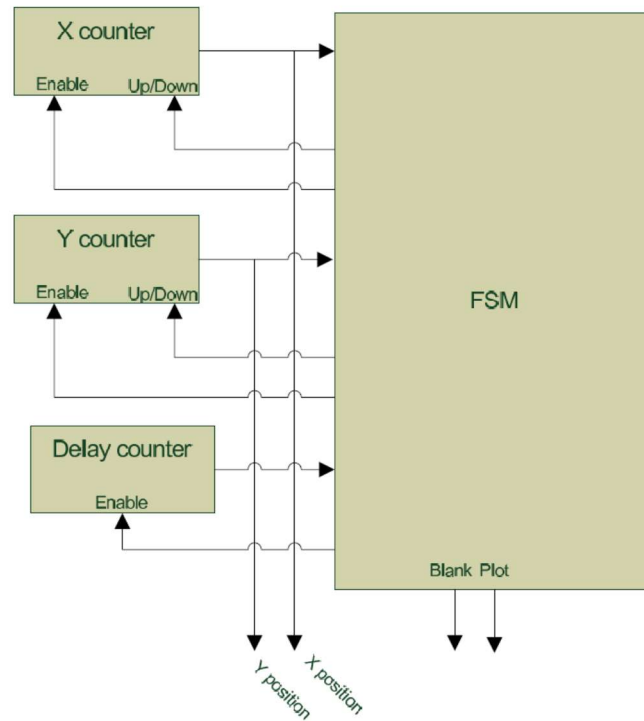

Fig. 5: Suggested circuit layout for creating an animation
The circuit from step 1 can be used to draw an image at any location (X,Y). To move the image, you will have to first erase it from the location it is currently at and then draw it again at an alternate location. There is a simple way to do that when the screen background is black. First, we draw an image at location (X,Y). Then to move the image we simply draw a black box on top of the image (using the erase function of the circuit from step 1) and redraw the image somewhere else. A suggested circuit is shown in Fig. 5, and you may use it as a starting point.
1. Create a circuit to change the location of the top left corner of where the image is to be drawn, once every 60th of a second. You may use circuit shown in figure 5 as a reference.